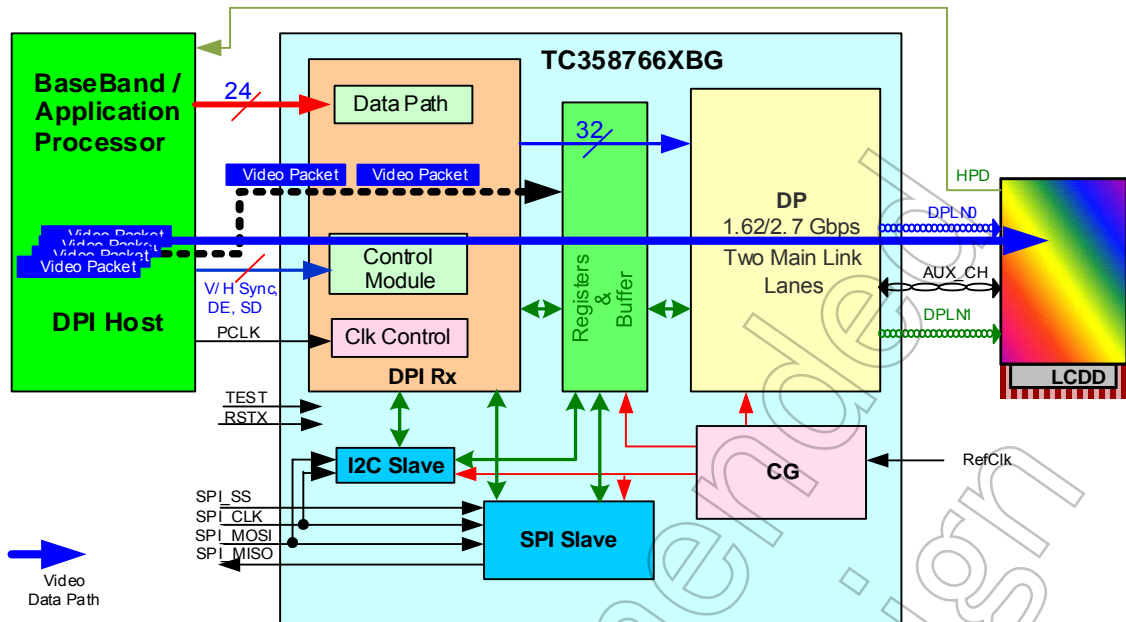

Figure 1.3 System Overview with TC358766XBG in MODE_P21 Configuration
- Mode_P21: A system configuration where TC358766XBG may typically be used is shown in Figure 1.3. This is similar to the Mode_S21 except that the video stream source is from DPI Host. In this configuration, the TC358766XBG can support displays with resolution up to WUXGA (1920x1200) at 24bit, 60 fps.